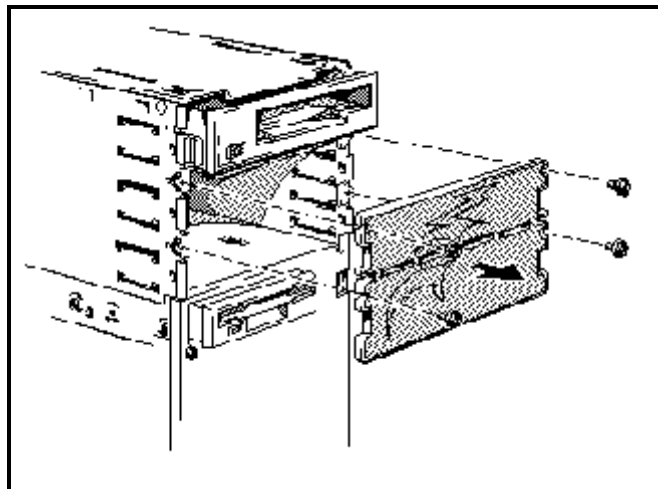

Figure 3
7. Locate the slot where the 5.25 inch floppy is to be installed and remove the front panel insert(s) (figure 3).